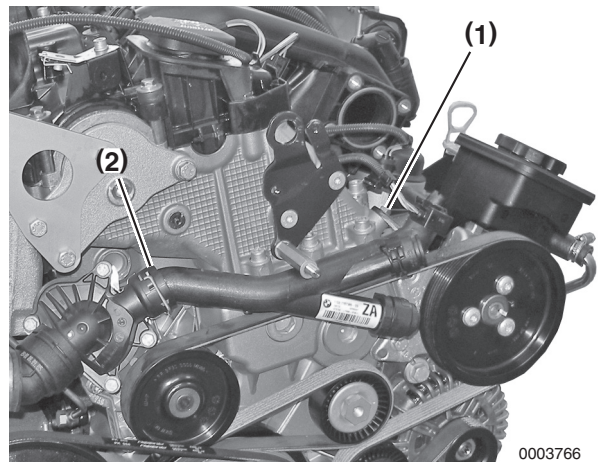

Figure 5-42
13. Connect oil cooler return pipe (**Figure 5-42, (2)**) to thermostat housing.
14. Install bolt (**Figure 5-42, (1)**).